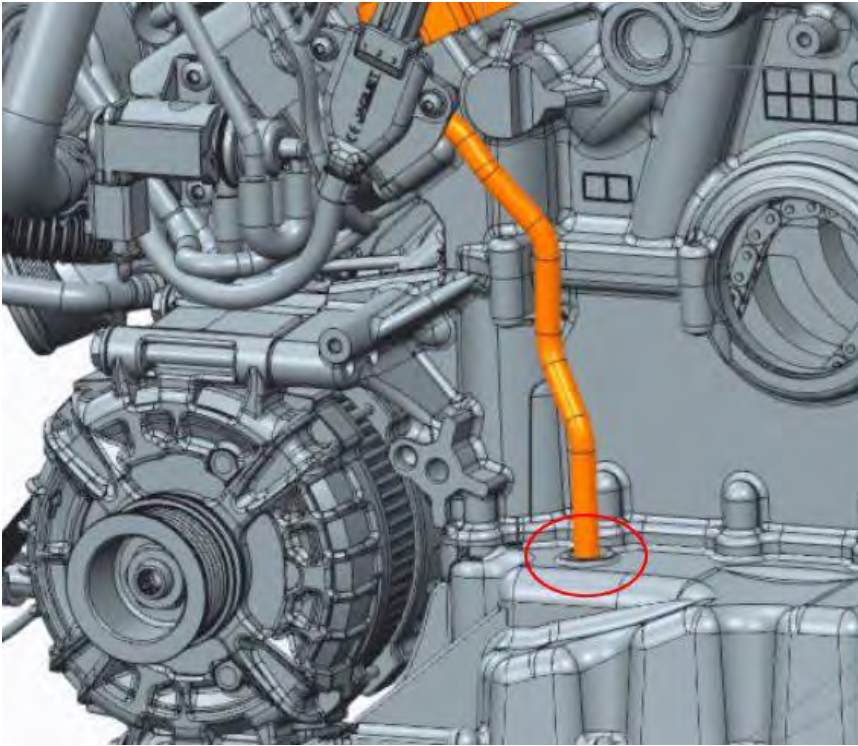

Figure 2
1. Firstly check the breather return line for signs an oil leak in area highlighted in Figure 2. Should a leak be evident, remove the tube and check the O-ring for damage.